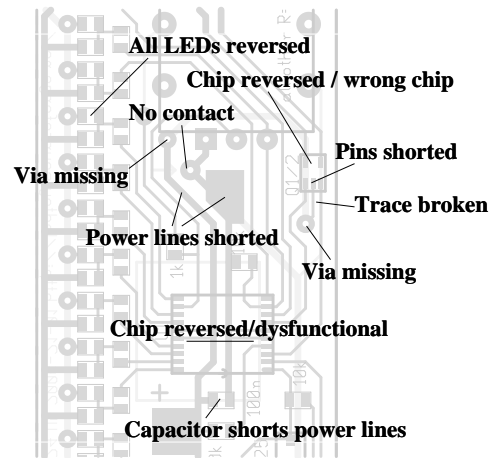
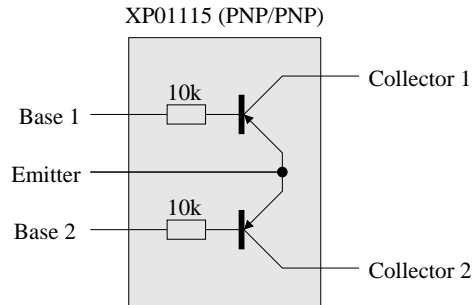

Figure 12.2: ...
Figure 12.3: The XP01115 transistor array contains two PNP transistors, with a $10 \text{ k}\Omega$ resistor on each base, and with a common emitter.
Figure 12.2 shows a selection of possible defects that would cause the circuit to remain dark. There may also be multiple defects, e.g., if both traces from the transistor array to the LEDs are broken,
- Wire the common emitter (see figure 12.3, which shows the PNP counterpart, but with the same internal structure) to ground
The circuit also stays dark if only the power supply to the LEDs is broken. A single point of failure for this is path from the positive pole of the battery to the common emitter (see figure 12.3) at the transistor array. Besides the traces themselves, weak points include the vias in that path, as shown in figure 12.2.